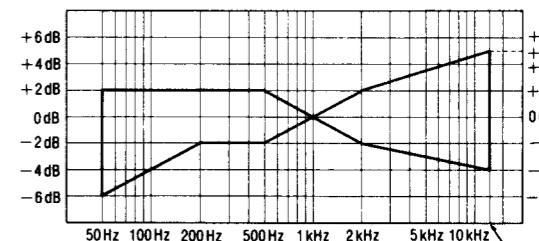

Fig. 9
6. After that increase the signal recorded on CrO₂ blank tape (QZZCRX) and metal blank tape (QZZCRZ) up to 12.5kHz and adjust in the same way as mentioned above and check that the frequency level is within the range shown in Fig. 9.